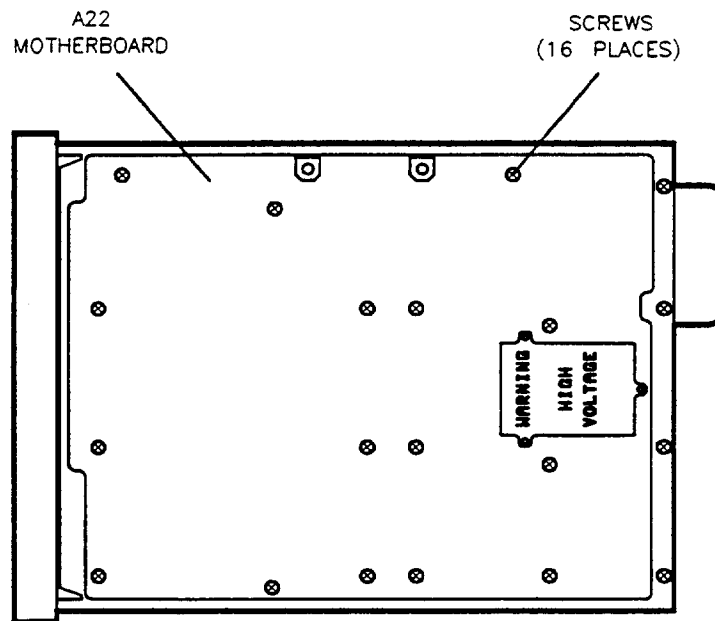

Figure 7-55. Motherboard Screws
2. Remove the 16 screws from the bottom side of the motherboard bottom side Figure 7-55.